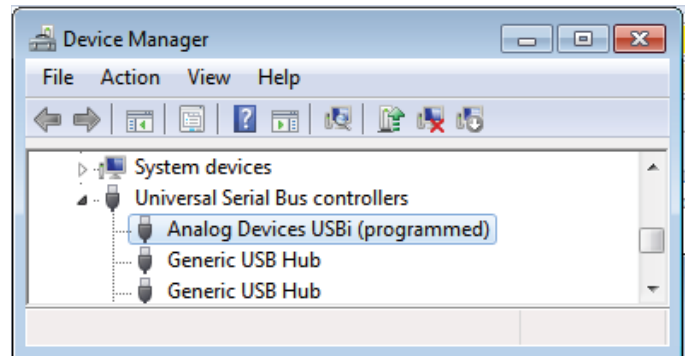

Figure 8. Confirming Driver Installation Using the Device Manager
- In the Windows **Device Manager**, under the **Universal Serial Bus controllers** section,(see Figure 8), check that **Analog Devices USBi (programmed)** is displayed.